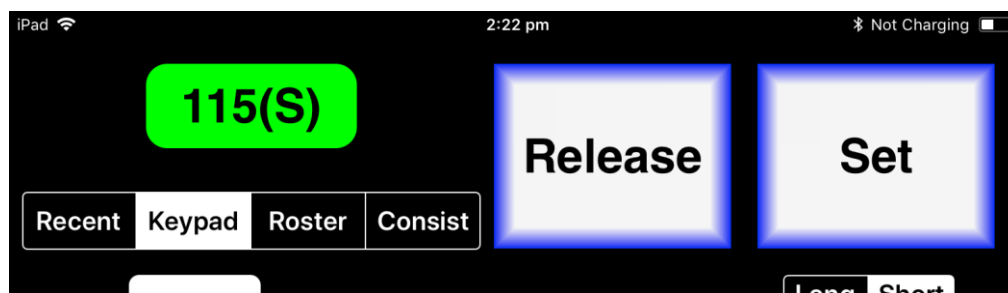

Figure 10 The loco is successfully selected
(11) The red button at the top left should turn green to show the loco is selected as Figure 10.